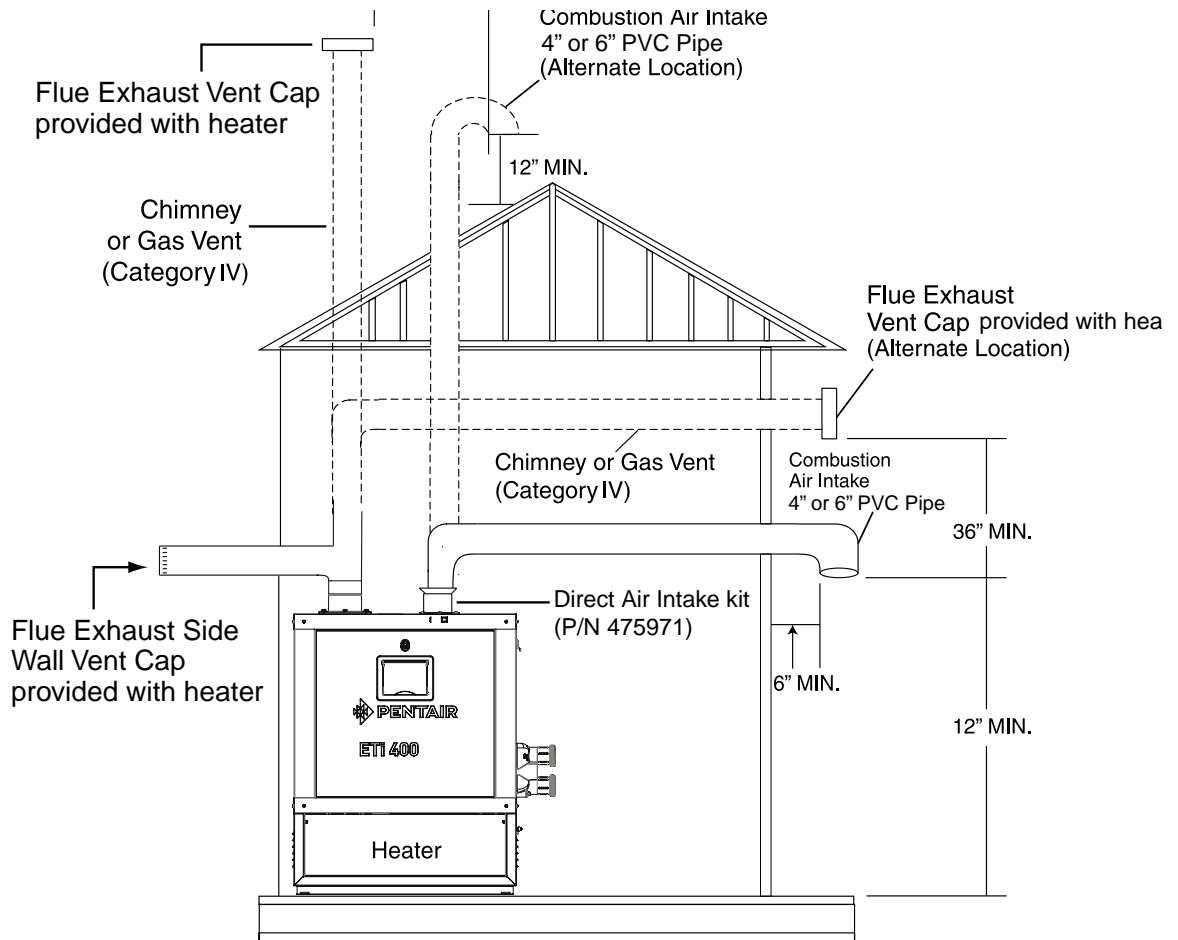
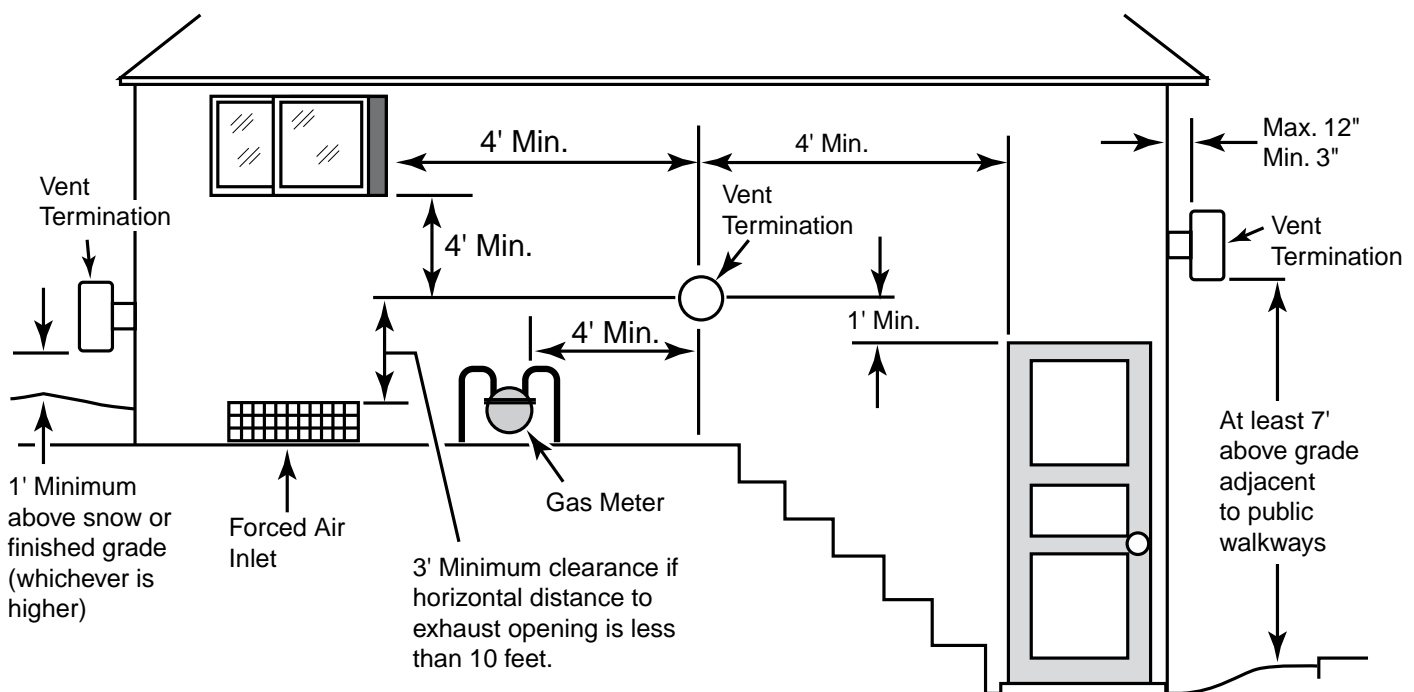
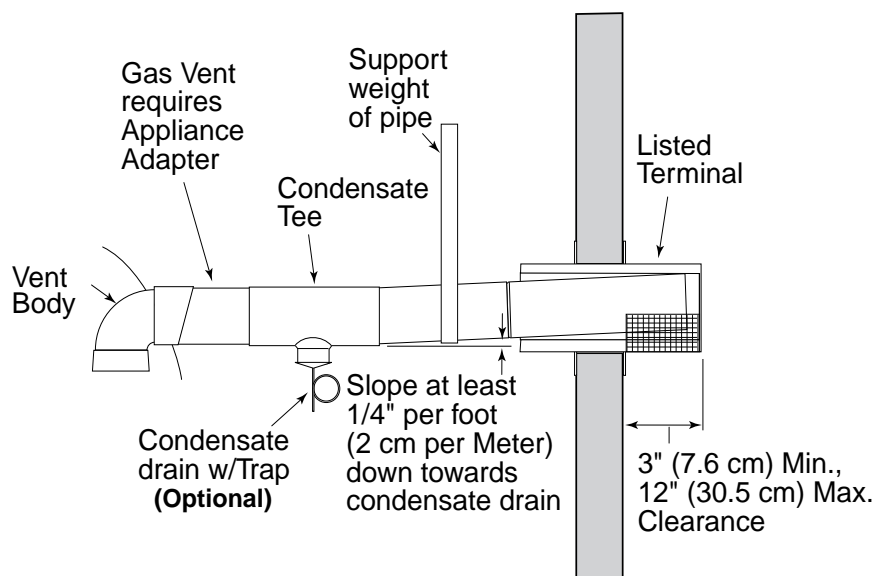
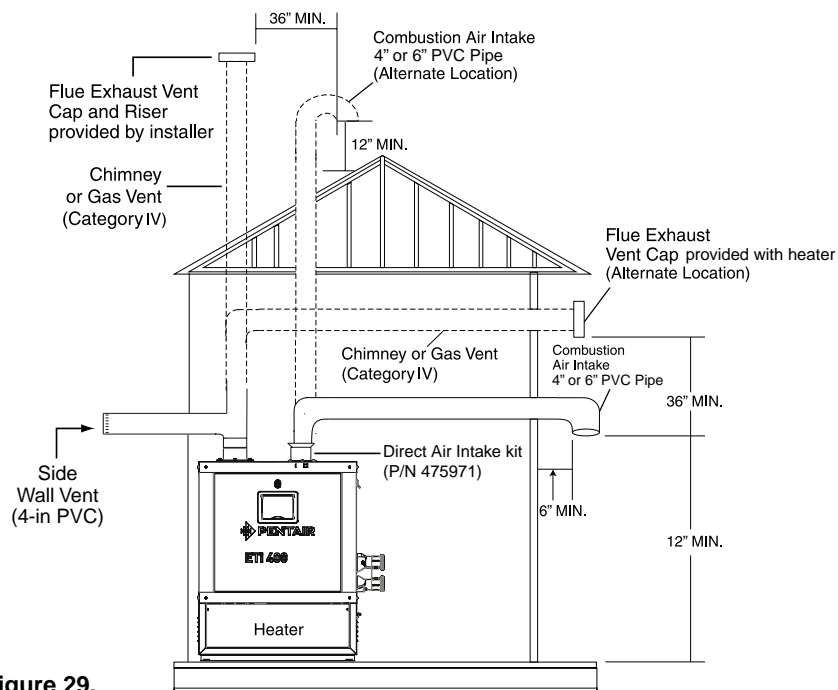

Figure 24.
Figure 27.
Figure 28.
Figure 29.
An appliance that operates with a *positive* vent static pressure and with a vent gas temperature that allows excessive condensate production in the vent, see Figure 24 (page 30) and Figure 27, page 34.
The air intake opening MUST be installed at least 1 ft. above the roof line or normal snow levels for free air flow. The Category IV exhaust vent termination cap must have at least 3 ft. (1 m) minimum vertical clearance from air intake duct, see Figure 24.
HORIZONTAL OR VERTICAL VENTING (CATEGORY IV) - POSITIVE PRESSURE (See Figure 28, page 35 and Figure 29, page 36)
3. **Vent Termination:** Vertical (See Figure 27 below and Figure 29 on page 36), for height of vent termination above the roof. Use an *Approved* vent terminal specified by local and national codes and your manufacturer's instructions. A roof termination must be vertical. In Canada, the Vent Cap location shall have a minimum clearance of 4 feet (1.2M) horizontally from electric meters, gas meters, regulators, and relief openings.
The terminal must be located (U.S. – See Figure 27 on page 34):
- at least 3" and at most 12" out from the wall (see Figure 29 on page 36), following the vent manufacturer's instructions
The terminal must be located (Canada – See Figure 27 on page 34):
The flue direct vent cap **MUST** be mounted on the exterior of the building. The direct vent cap cannot be installed in a well or below grade. The direct vent cap must be installed at least 1' (0.3 m) above ground level and above normal snow levels, see Figure 27, page 34. The direct vent cap **MUST NOT** be installed with any combustion air inlet directly above a direct vent cap. This vertical spacing would allow the flue products from the direct vent cap to be pulled into the combustion air intake installed above.
It is recommended that the intake vent (see Figure 29 below) be insulated in colder climates.